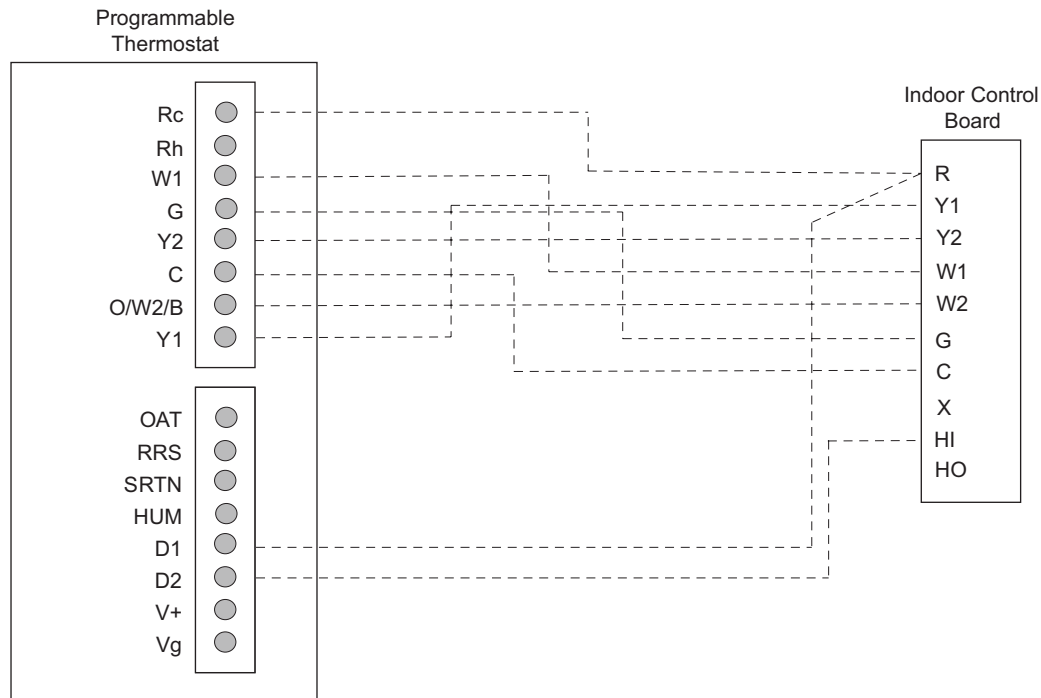

Fig. 31 — 40RL 07-12 Unit with Adaptive Dehumidification System with Edge Pro Thermostat Device
2. The Thermidistat has dry contacts at terminals D1 and D2 for dehumidification operation (shown in Fig. 31 on page 27). Connect D1 to the R terminal on the IDCS. Connect D2 to the HUM terminal on the IDCS. Refer to the installation instructions included with the Carrier Edge® Pro Thermidistat device for more information.